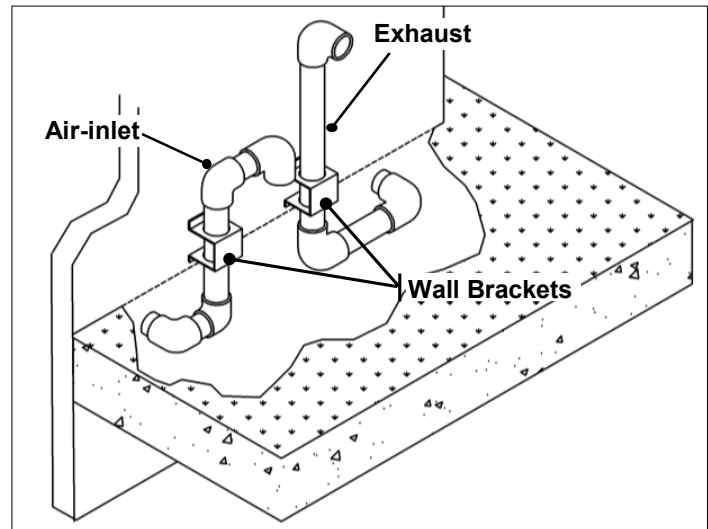

Figure 11 - Venting Below Grade
1. Excavate the site to a point where the pipes are to exit as shown in Figure 11.